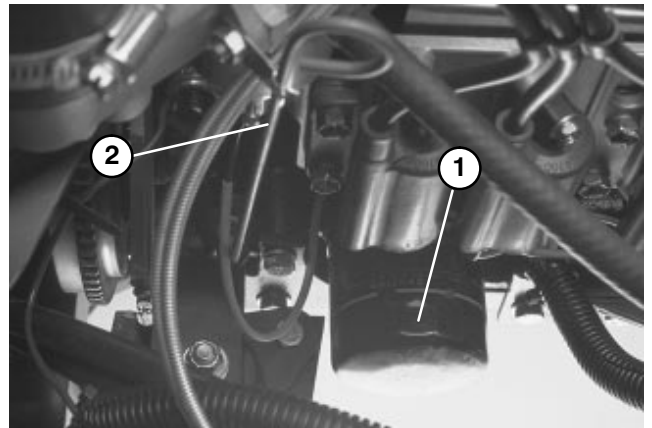

Figure 29
5. Remove and replace oil filter (Fig. 29); refer to parts catalog for part number.